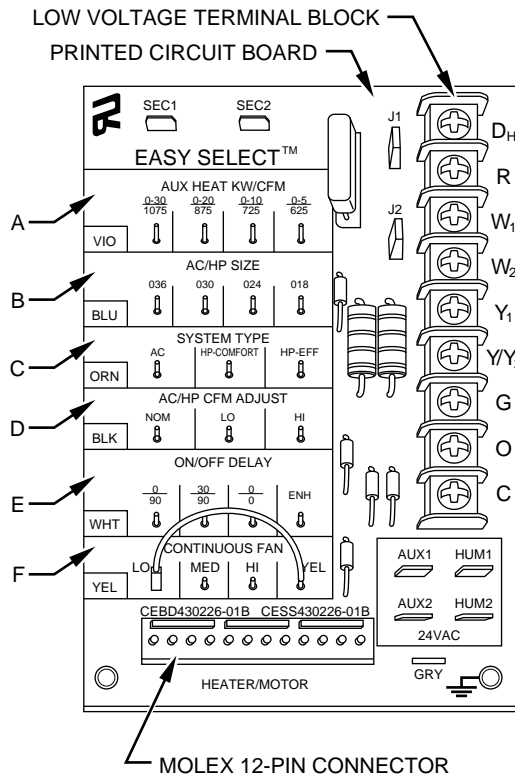

Fig. 16—Detail of FK4C Printed-Circuit Board
EASY SELECT taps are used by the installer to configure a system. ICM2 uses the selected taps to modify its operation to a pre-programmed table of airflows. Airflows are based on system size or mode of operation and those airflows are modified in response to other inputs such as the need for de-humidification. (See Fig. 16 and 17.)
Installer must select the auxiliary heat airflow approved for application with kw size heater installed. If no heater is installed, this step can be skipped. Each select pin is marked with a range of heaters for which airflow, also marked, is approved. The heater installed must fall within the range selected for safe and continuous operation. Note that airflow marked is the airflow which will be supplied in emergency heat mode and heating mode on air conditioners when electric heat is the primary heating source. In heat pump heating mode when electric heaters are energized, the ICM2 will run the higher of heat pump heating airflow and electric heater airflow to ensure safe heater operation. The factory selection is the largest heater range approved. (See Fig. 16, A as indicated.)
The factory setting for air conditioner or heat pump size is the largest unit meant for application with the model of fan coil purchased. Installer needs to select air conditioner or heat pump size to ensure that airflow delivered falls within proper range for the size unit installed. This applies to all operational modes with the exception of electric heat modes. (See Fig. 16, B as indicated.)
The factory setting is AC. (See Fig. 16, C as indicated.)
To provide airflow at rates described above, the AC/HP ADJUST select is factory set to the nominal (nom) tap. The adjust selections HI/LO will regulate airflow supplied for all operational modes, except non-heat pump heating modes, +15 percent and -10 percent respectively. The adjust selection options are provided to adjust airflow supplied to meet individual installation needs for such things as noise, comfort, and humidity removal. (See Fig. 16, D as indicated.)
Four motor operation delay profiles are provided to customize and enhance system operation. (See Fig. 16, E as indicated)
3. HI speed — move connector of HI, 100 percent cooling mode airflow. (See Fig. 16, F as indicated.)
Because the ICM2 blower motor used in the FK4C Fan Coil is controlled by low-voltage signals, a switched 230-vac electronic air cleaner power signal is not available. This signal is replaced by a 24-vac signal which is provided at PCB terminals AUX1 and AUX 2 (See Fig. 16 and 17.) This signal is present whenever the G thermostat signal is present (heat pump heating, cooling and continuous blower modes). When the FK4C Fan Coil is installed with an electronic air cleaner, use EAC relay kit Part No. KFAIR0201ACR or a field supplied 24-vac relay.